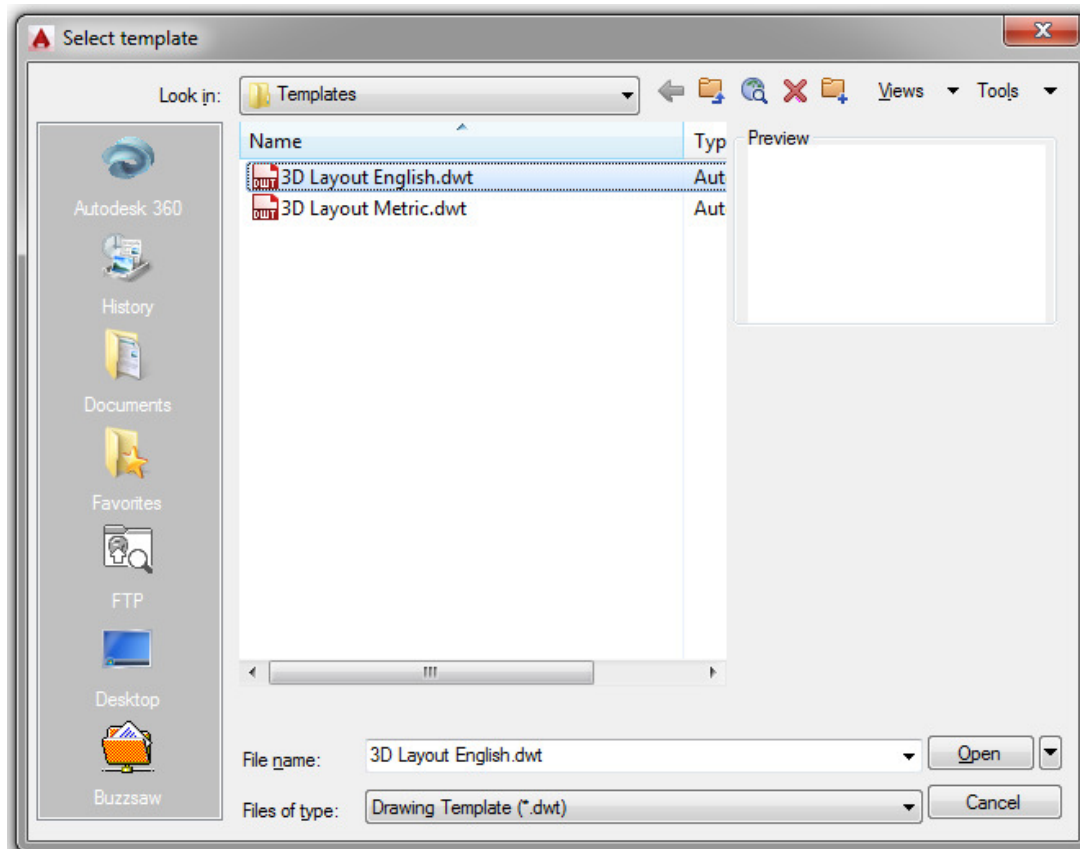

Figure Step 3
Step 3 In the Select Template dialogue box, click the template file: 3D Layout English to highlight it. Then click the Open button. This will open AutoCAD's Graphic window. (Figure Step 3)